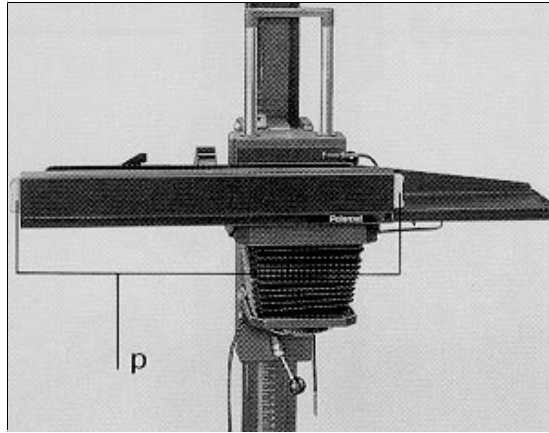

Figure 2-23. Sliding Head Release Buttons
- a. Press the release button (p, figure 2-23) and slide the head all the way to the right for viewing and focusing. Press the other release button to slide the head to the left for picture taking.